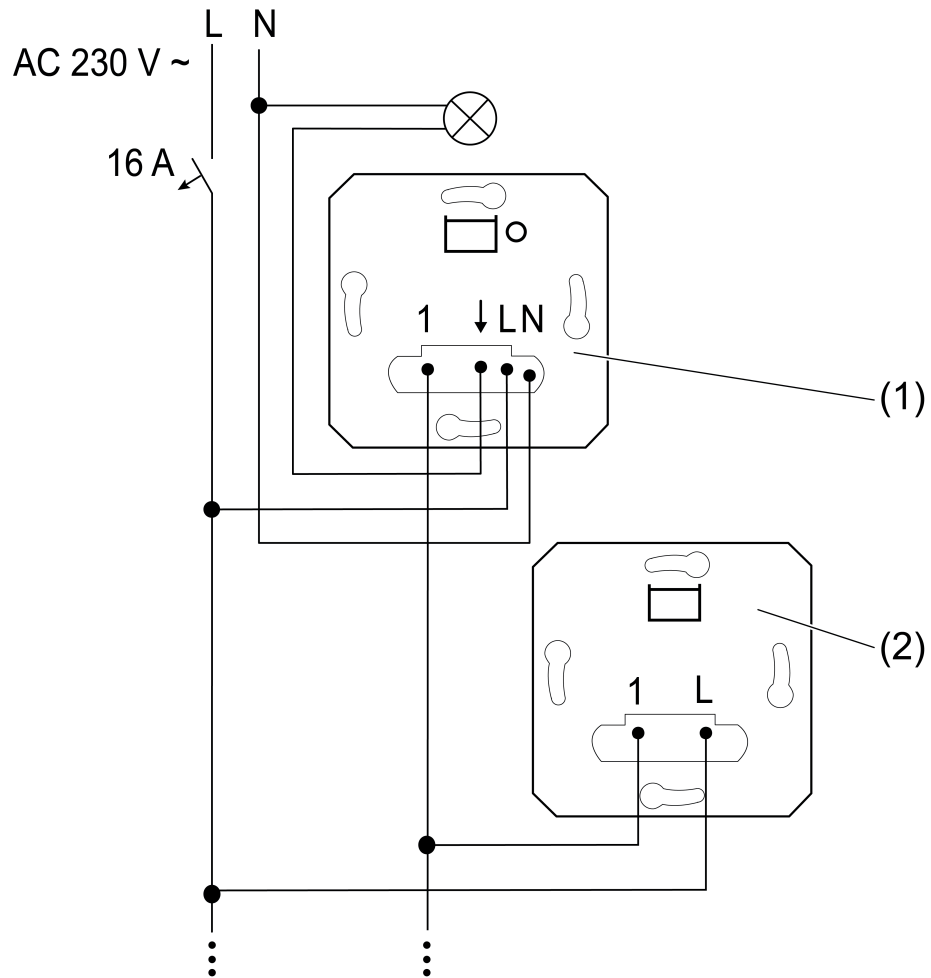
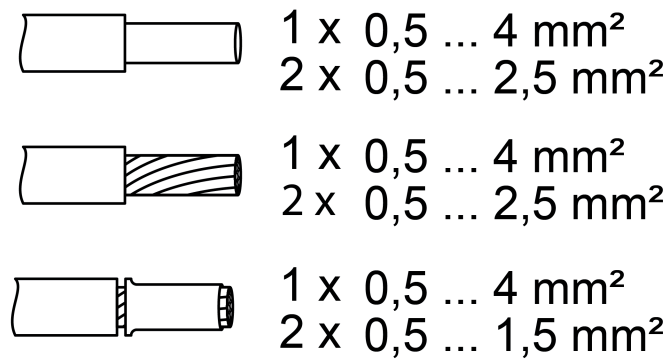

Figure 1: Connection diagram 2-wire extensions
Figure 2: Clampable cable cross-sections
- Connect extension (2) according to connection diagram (figure 1). Note clampable cable cross-sections (figure 2).
**i** Any number of 2-wire extensions (2) can be connected to a main device (1) (figure 1).